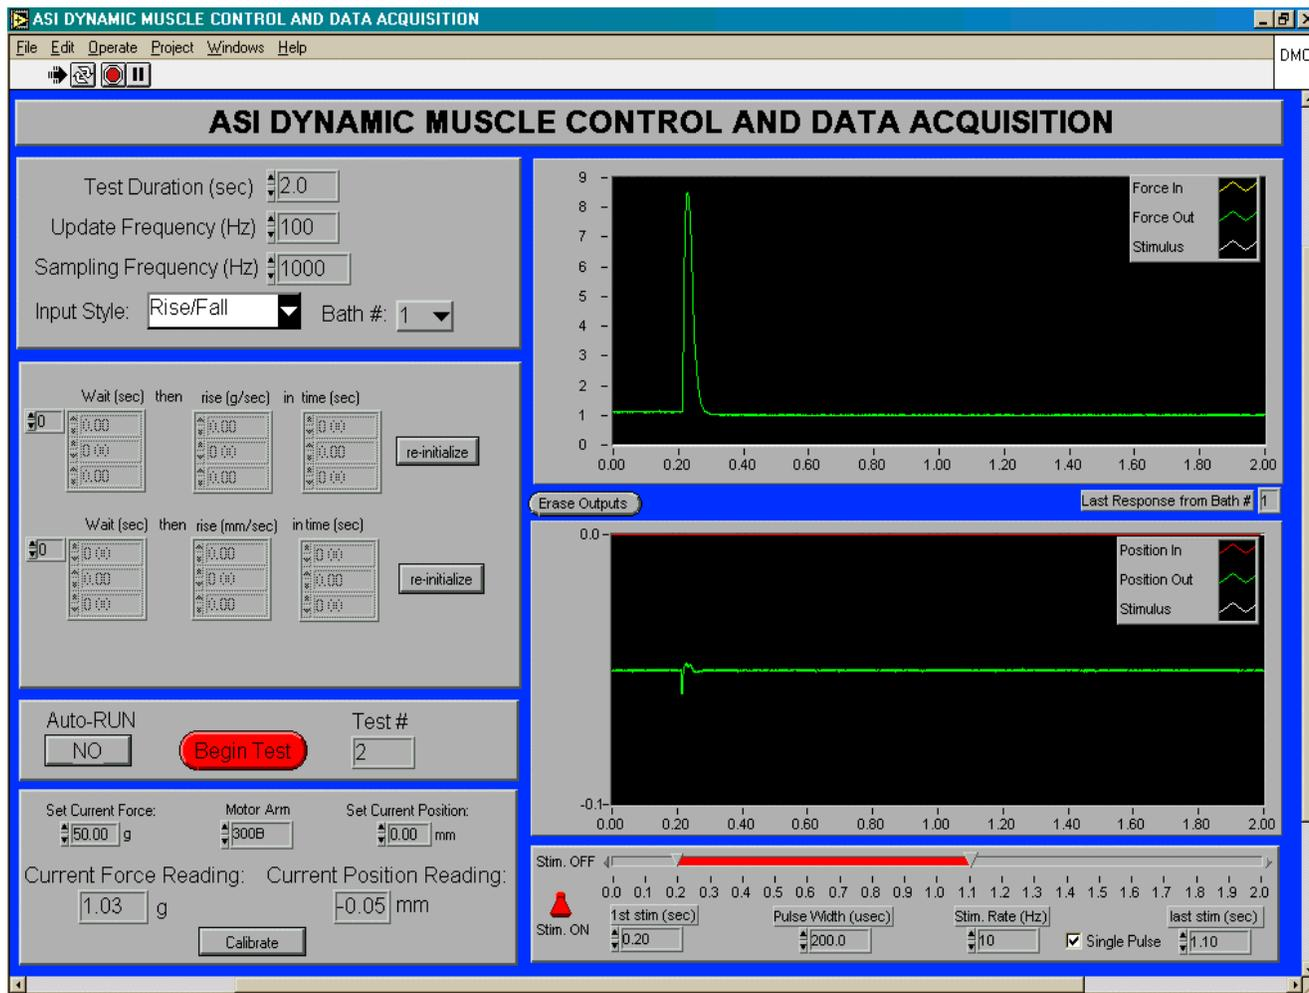

Figure 12. Single stimulation pulse response
Figure 12 shows the results of a stretch protocol:
- 1) The 'Test Duration' window is as described for Figure 12 except that the user can add a 'Reference Length' for the sample from which changes in length can be determined. 'Reference Force' is not functional in this module.